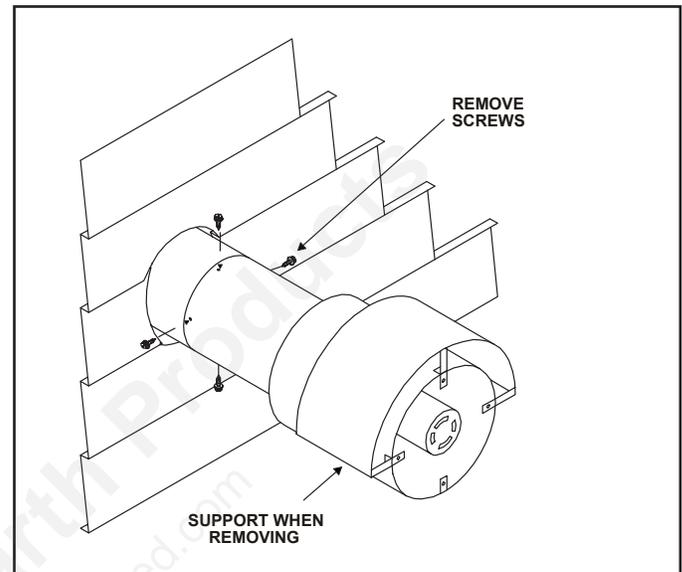

Figure 4.42
- D. With the cable loosened from the power vent assembly, remove the sheet metal screws used to secure the power vent assembly in place. Firmly support the assembly to prevent the unit from falling after the sheet metal screws have been removed. See Figure 4.42.